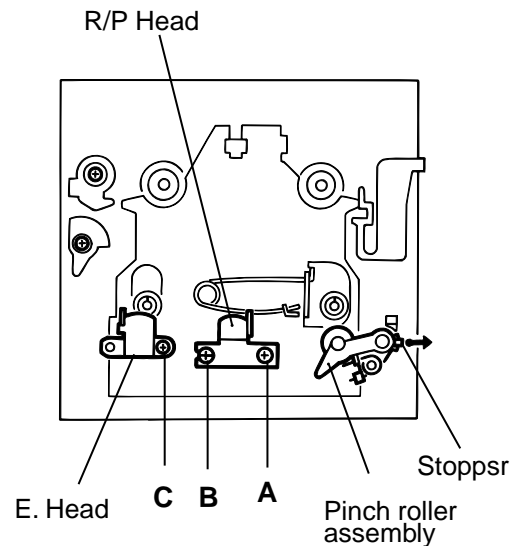
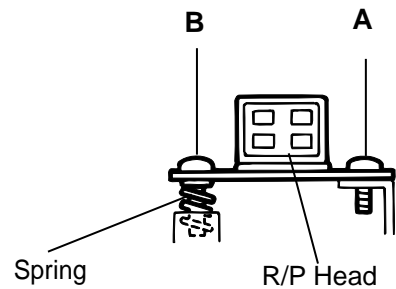

Fig.1
Fig.2
■ Removing the feed motor. (See Fig.1)
1. Remove the screw **A** on the right side of the R/P head.(Fig.1, Fig.2)
2. Remove the screw **B** on the left side of the R/P head.(Fig.1, Fig.2)
Remove the screw **C** fixing the erase head.(Fig.1)